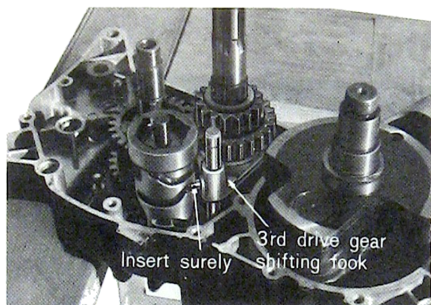

Fig. 5-3-3 Inserting shifting fork into the third drive gear
- 3) Insert the shifting fork (smaller one) into the third drive gear, then the gear shifting cam together with the shifting fork shaft (third drive gear side) into the left crankcase. In this case place the shifting fork pin into the middle lead groove of the cam. (Fig 5-3-3)